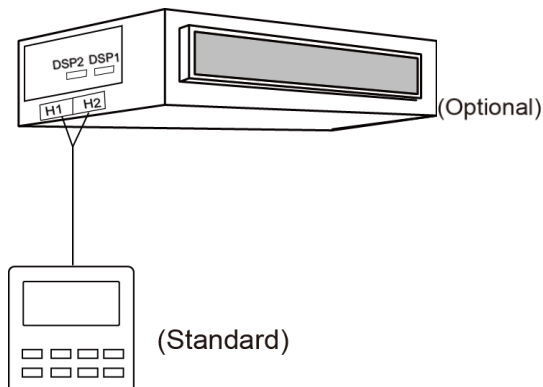

Fig 5.4.1
- 1) Fig 5.4.1 shows the installation of wired controller.